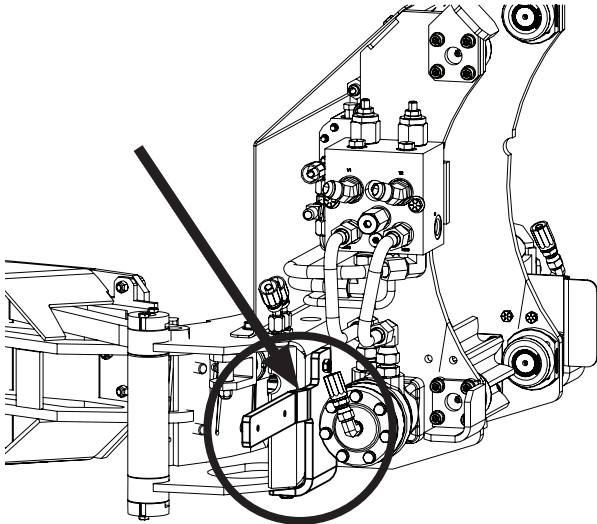

Figure 8
14. Remove and discard the hydraulic tube clamp bracket (Figure 8 backside of grabber shown). Retain the hardware.